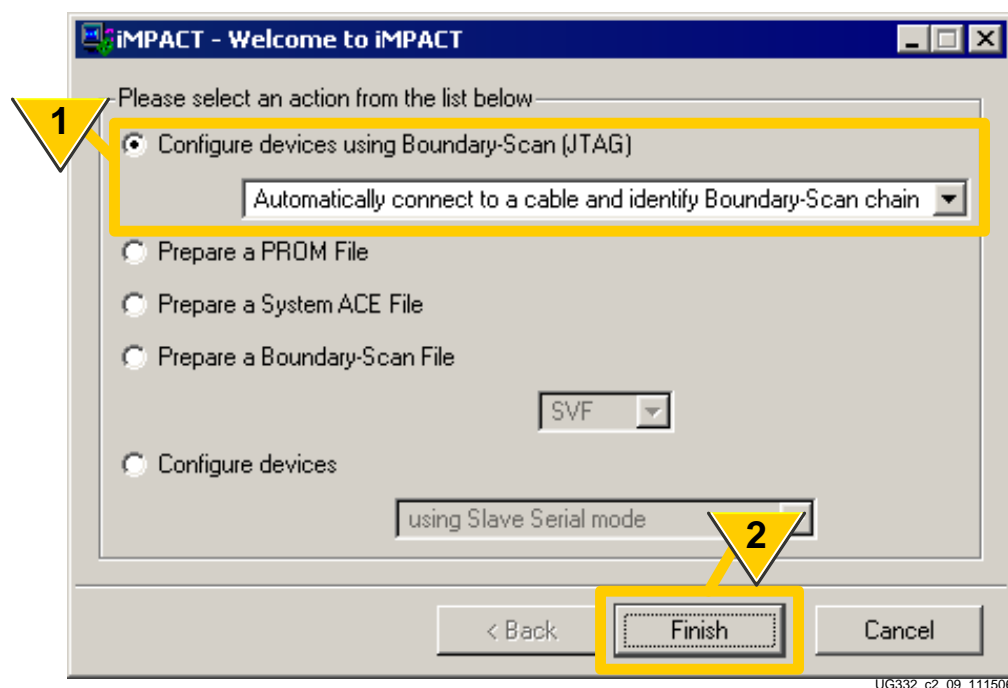

Figure 3-14: Program Platform Flash PROM using JTAG
1. Click **Configure devices using Boundary-Scan (JTAG)** from within iMPACT, as shown in Figure 3-14. If the **Automatically connect ...** option is selected, iMPACT will query the devices in the JTAG chain and automatically detect the chain topology.